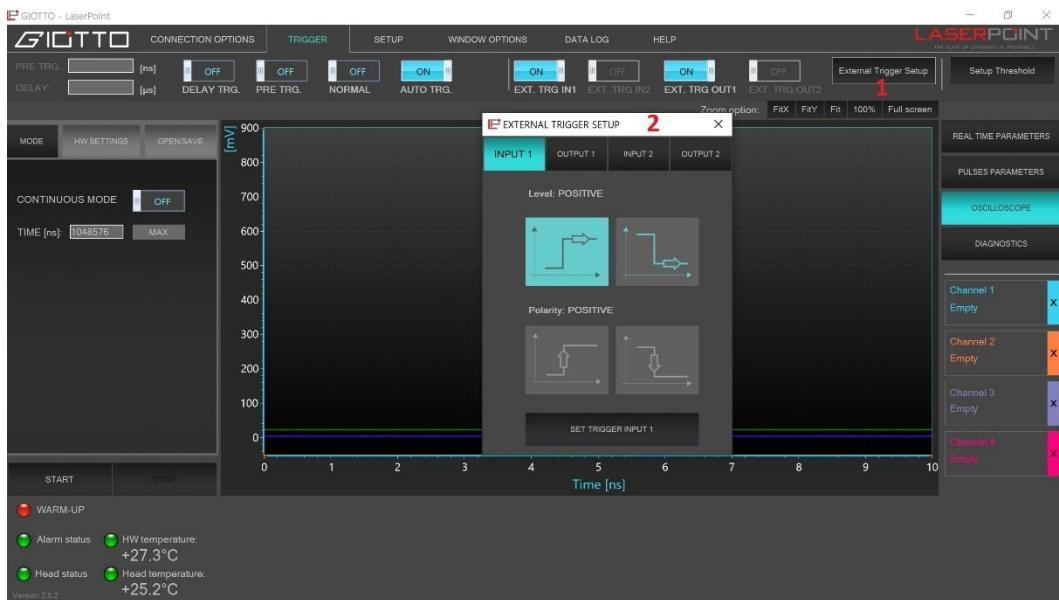

Figure 22
1. External Trigger Setup button (1, fig.22) allows access to setup panel (2, fig.22) where polarity of Inputs/Outputs can be defined.